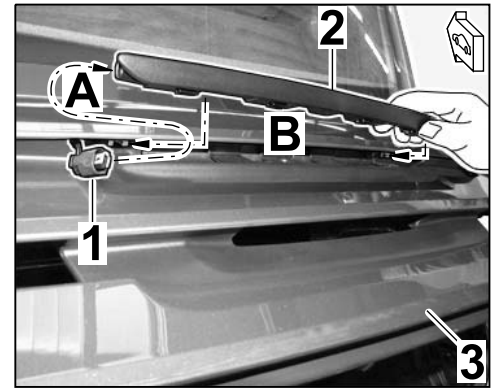

Figure 11
3.3.2 Insert additional brake light connector, which is no longer required, (Coupé: rear lid or Cabriolet: convertible-top compartment lid) in the additional brake light trim (⇒ *Figure 11 -A-*).
3.3.3 Fit trim in the rear lid/convertible-top compartment lid (⇒ *Figure 11 -B-* ⇒ *Workshop Manual '947019 Removing and installing additional brake light'*).